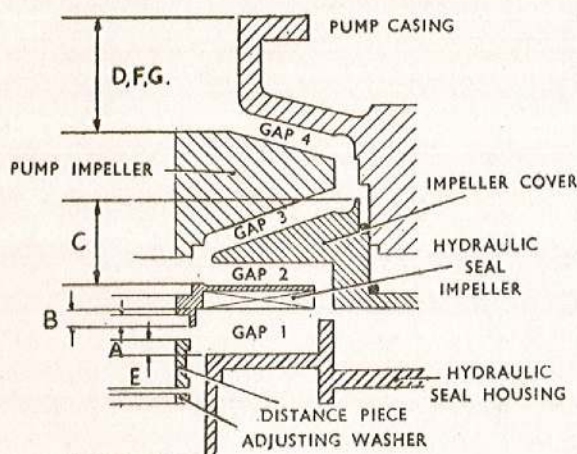

Fig. 32. Pump assembly clearance gaps
215. Before assembling the pump end of the shaft the following measurements must be taken and recorded (fig. 32).
220. The projection of the distance piece and the difference in level between the counterbored face (A) and the flange face (B) of the hydraulic seal impeller (para. 216) gives gap. 1 (Fig. 32).